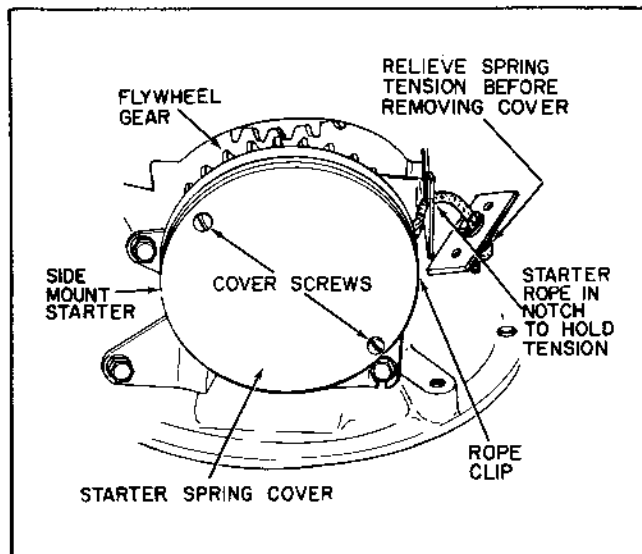
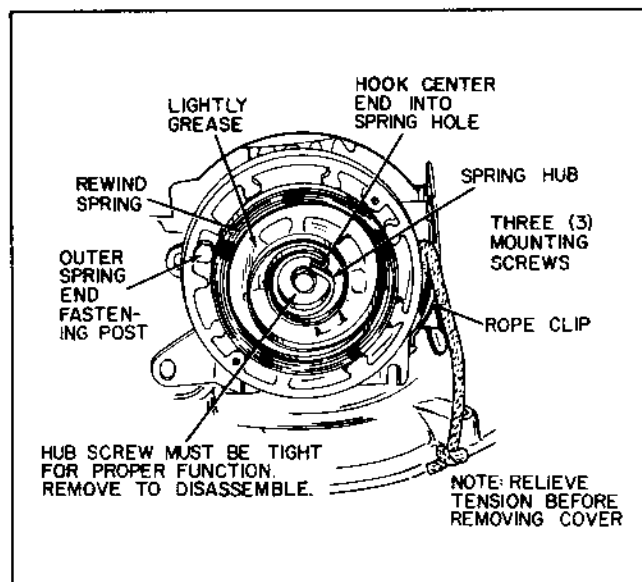

Figure 1-13
Figure 1-14
- (2) Remove the starter spring cover by loosening the two (2) small screws. Figure 1-13. This exposes the rewind spring which can easily be replaced at this point if necessary. **CAUTION: ALWAYS REMOVE SPRING TENSION BEFORE REMOVING COVER.**
- (3) A temporary spring retainer makes easy spring replacement. After removing old spring, reinsert replacement spring in the same relative position. Lay spring and retainer over pulley spring receptacle and push spring out of the retainer into position. Discard the retainer.
- (4) To further disassemble starter, remove the center hub screw and spring hub. This will allow the pulley and gear to be removed as an assembly. See Figure 1-14. **NOTE: TO TROUBLE SHOOT COMPLAINT** - Check hub screw to see that it is tight. Looseness causes the spring to unwind, preventing rope retraction.
- (1) Reassemble starter in the reverse procedure for disassembly. Points to note are: Rope length and diameter must be equal to that which was factory installed, 5/32 diameter, length to be measured.
- (2) Rope clip must fit tightly onto mounting bracket. Small raised spot must fit into hole provided in bracket. Figure 1-14 and 1-17.
- (3) Lubricate with light grease at only two points, the center shaft and the edges of the rewind spring. See Figure 1-14 and 1-17.
- (5) Tighten hub screw securely or slippage will result in that the spring cannot return the rope into pulley. See Figure 1-14.